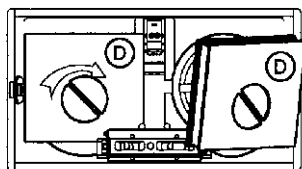

fig.2
- Insert the carbon filter "D" Fig. 2.
counterclockwise direction and remove the filter from its seat (Fig. 2).